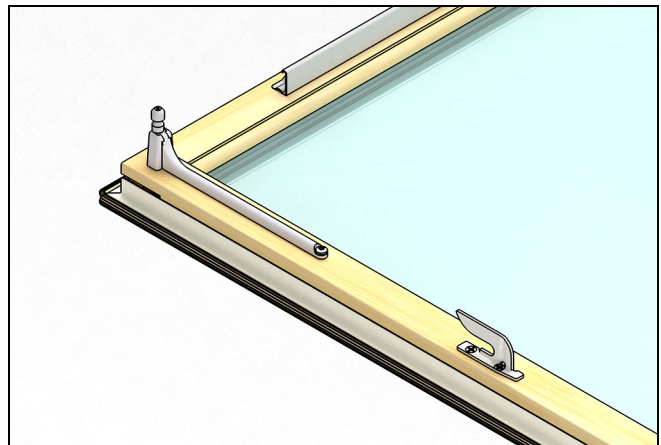

Figure 9 Properly installed WOCD tether assembly.
- If the locking bullet does not retract quickly and completely, repeat Step 16 through Step 18. If the spring functions properly, ensure the installed tether assembly resembles Figure 9.